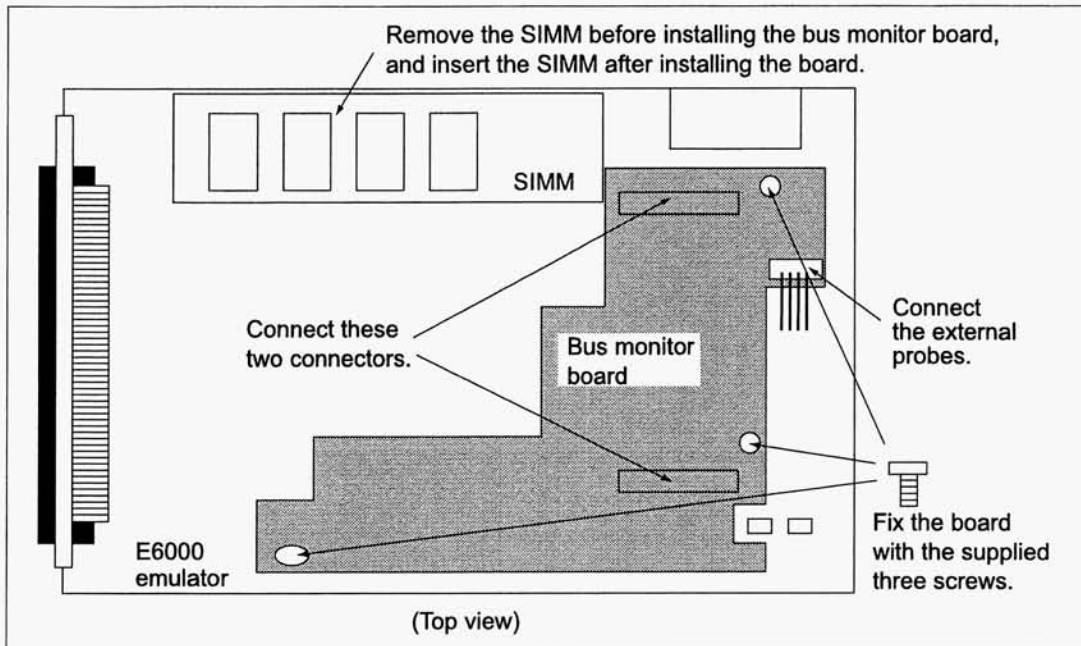

Figure 1 Connecting to E6000 Emulator
4. Align the 60-pin connectors as shown in figure 1, press the bus monitor board down until the connectors are locked, and fix the bus monitor board with the supplied three screws.